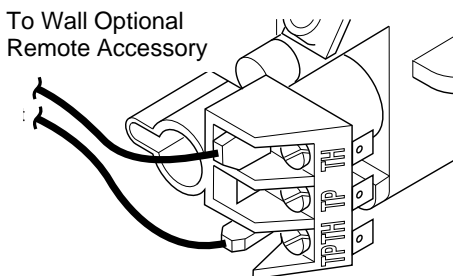

Figure 41 - Control Valve Terminals
the valve. Make sure that the wire terminals are in the positions on the unit as pictured in Figure 41, page 21. If wires are not connected as shown the switch will not work.
6. Connect wires from receiver to TH and TPTH on the valve (see Figure 41).